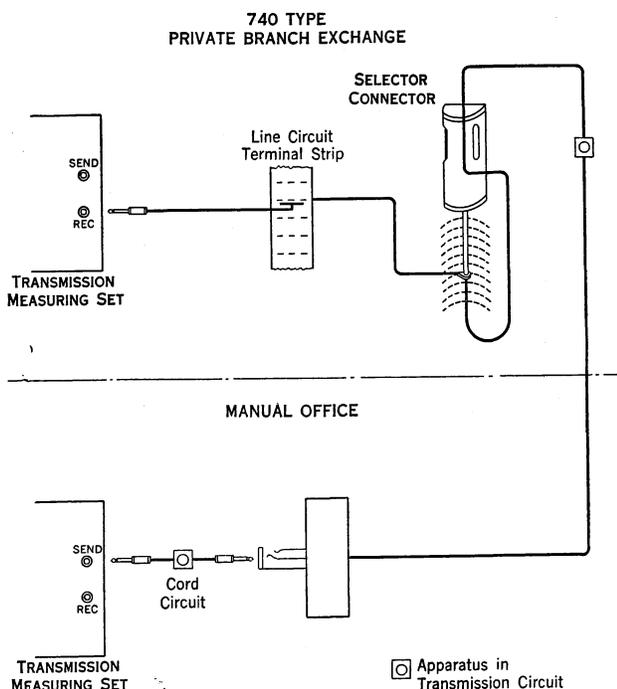

Figure 4
2.60 Figure 4 shows schematically the connections for the test.